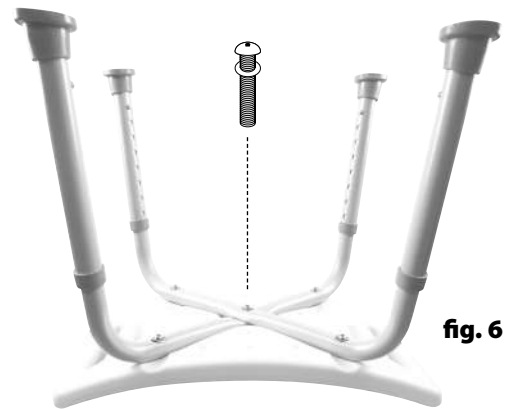

fig. 6
6. Secure both leg assemblies to the seat board using 1 x M6 screw and 1 x vaulted washer (see fig. 6)